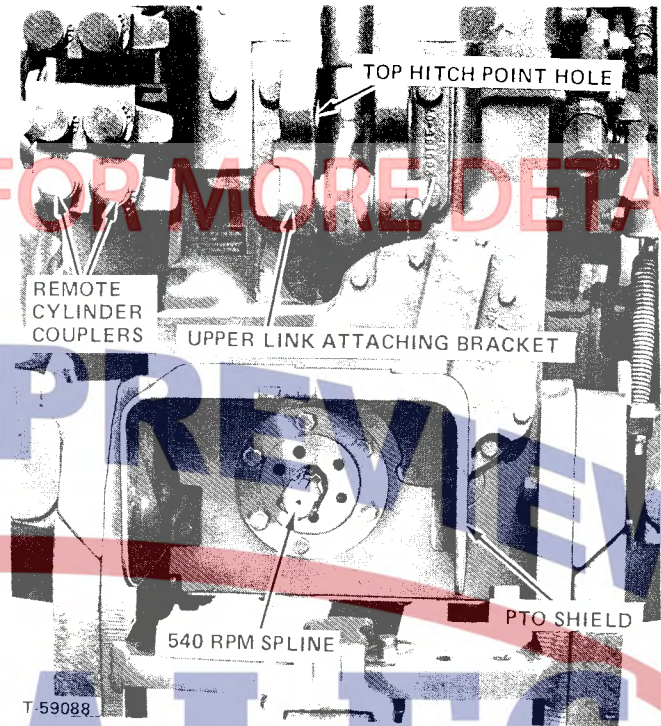

FIGURE 31
2. Install the stub shaft with the 540 RPM spline out (Figure 31).
NOTE: It is recommended that the top hitch point hole in the upper link attaching bracket be used for the upper link when operating fully mounted PTO driven equipment. This will provide the minimum change in drive line tilt when an implement is lifted, and the maximum clearance between the upper link and the dual speed PTO shield when implement is lowered. (Figure 31).